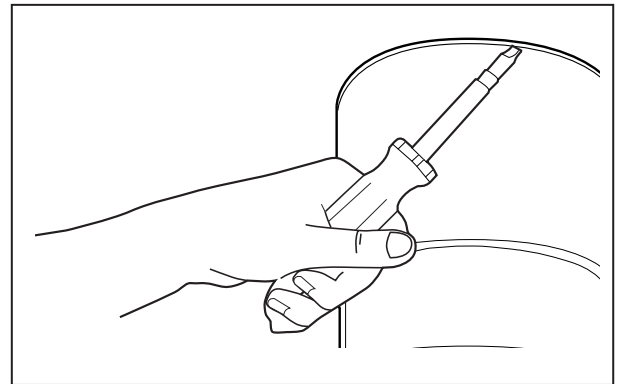

Figure 4.19
11. Place edge of flathead screwdriver between lower end frame and stator; tap end of screwdriver with rawhide mallet to separate lower end frame (see Figure 4.19).
6. Place disposer on its side. Place screwdriver tip against enclosure assembly ridge and lightly tap upper with rawhide (see Figure 4.19).